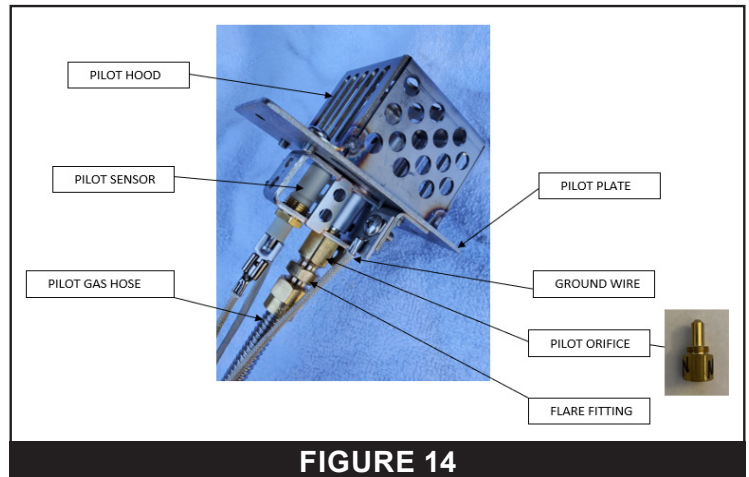

FIGURE 14
8. Remove the Flare Fitting from the Pilot Orifice and remove the Pilot Orifice from the support bracket. See **FIGURE 14**.
6. Remove the pilot hood. See **FIGURE 14**.